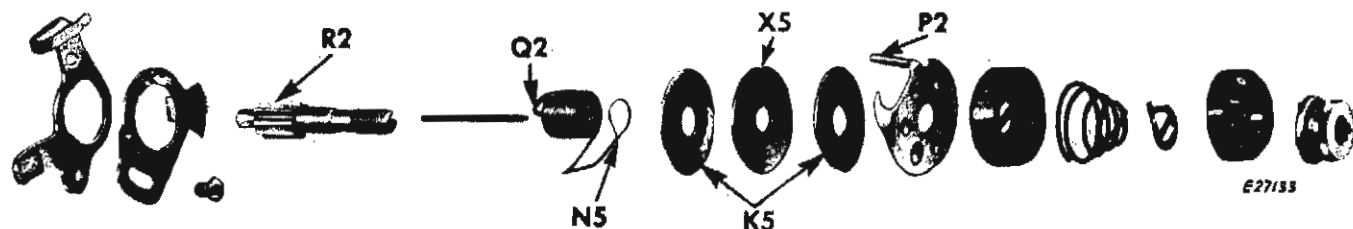
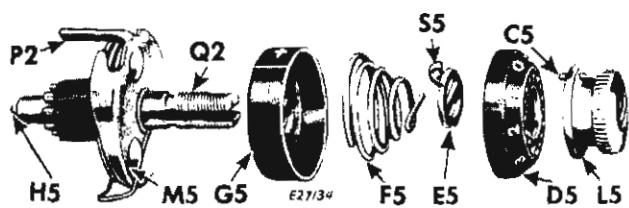
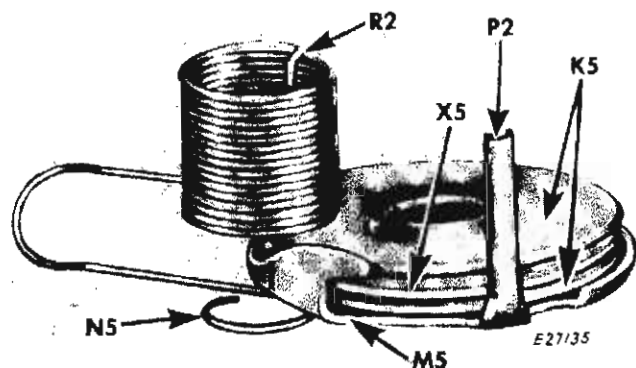

Fig. 306. Needle Thread Tension — Exploded View
Fig. 307. Needle Thread Tension
Fig. 308. Tension Disc Assembly
1. Turn thumb nut **L5**, Fig. 307 to left (counter-clockwise) until "0" on numbered dial **D5** stops at center line on indicator **G5**, Fig. 307.
2. Press in dial **D5**, separating pin **C5** in thumb nut **L5** from hole in dial **D5**; unscrew thumb nut **L5** and remove it from stud **Q2**, Fig. 307.
NOTE: It is not necessary to remove stud **Q2** from machine to disassemble the thread tension. It is shown removed in Figs. 306 and 307, to illustrate complete assembly. See page 132 for instructions on removal and replacement of entire tension assembly.
3. Other parts may be removed from the stud **Q2** in the order which they are shown in Figs. 306 and 307.
1. Replace parts on stud **Q2** in the order in which they are shown in Figs. 306 and 307.
2. Make certain that tension releasing pin **H5** is in place as shown in Fig. 307.
3. Place the two tension discs **K5** with their convex faces against flat disc **X5** in center, as shown in Fig. 306. These three tension discs should be behind thread take-up spring thread guard **M5**, as shown in Fig. 307.
4. Pass eyelet **N5**, Fig. 306 of take-up spring under thread guard, having coils of spring above tension discs, as shown in Fig. 308.
5. Guide the tension disc assembly on the stud **Q2**, so that extension **P2**, **Figs. 306, 307 and 308** enters hole, provided for it in machine arm and so that the tail **R2**, **Fig. 308**, inside the spring coil, enters one of the grooves at the rear of the stud **Q2** (see also **page 132**).
6. Replace indicator **G5**, **Fig. 307** with its large open side facing the split end of the stud — with plus and minus mark on top — “minus” at left and “plus” at right.
7. Hold these assembled parts against shoulder of stud, insert tension spring **F5**, **Fig. 307** in indicator, with first half-coil of spring **F5** straddling lower half of split stud.
9. Place the numbered dial **D5**, **Fig. 307** so that the number “2” is opposite stop washer extension **S5**.